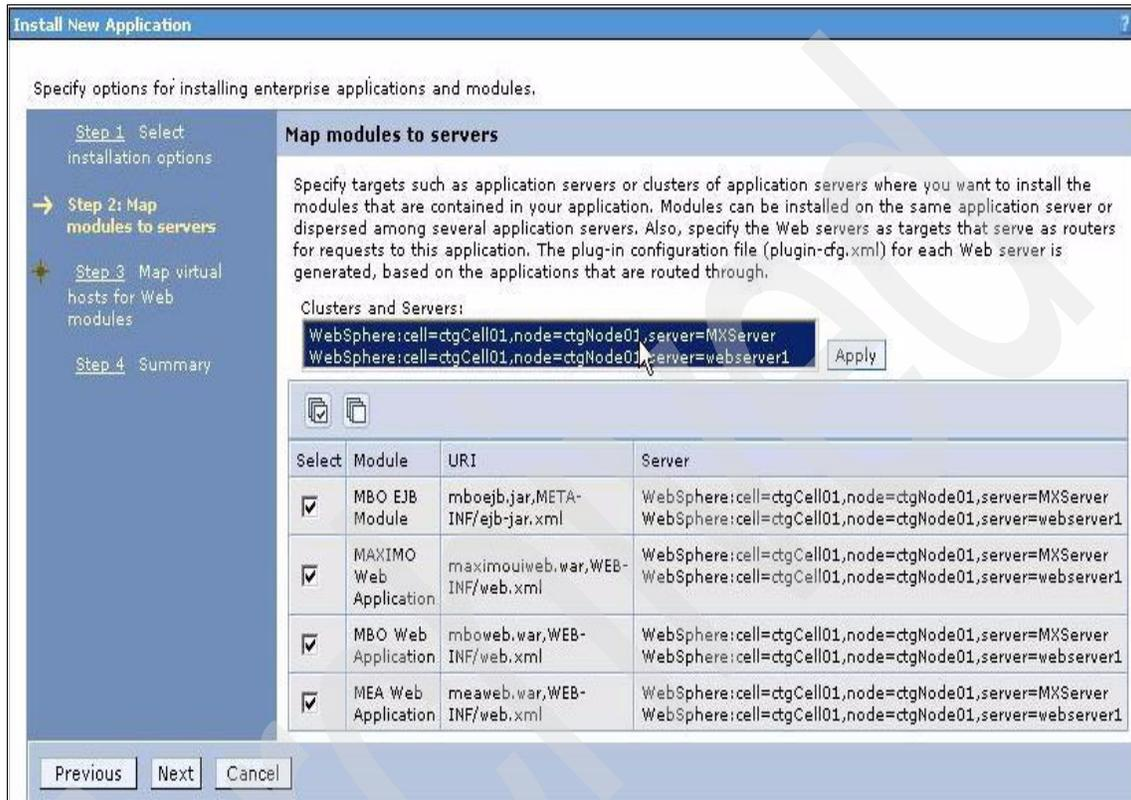

Figure A-48 Map modules to servers
11. In Step 2: Map modules to server, make sure you apply and select both the targets and click **Next** (see Figure A-48).